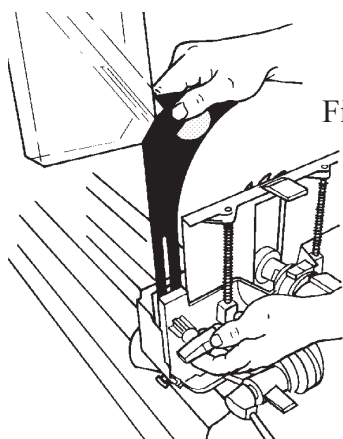

Figure B-108
91. Loosen the guard lock knob and insert the upper saw guard's riving knife between the guard and the lock plate, as demonstrated in Figure B-108.